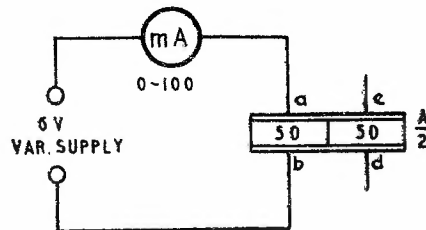

FIG. 1.
STEP 2. Connect the circuit as shown in Fig. 1.